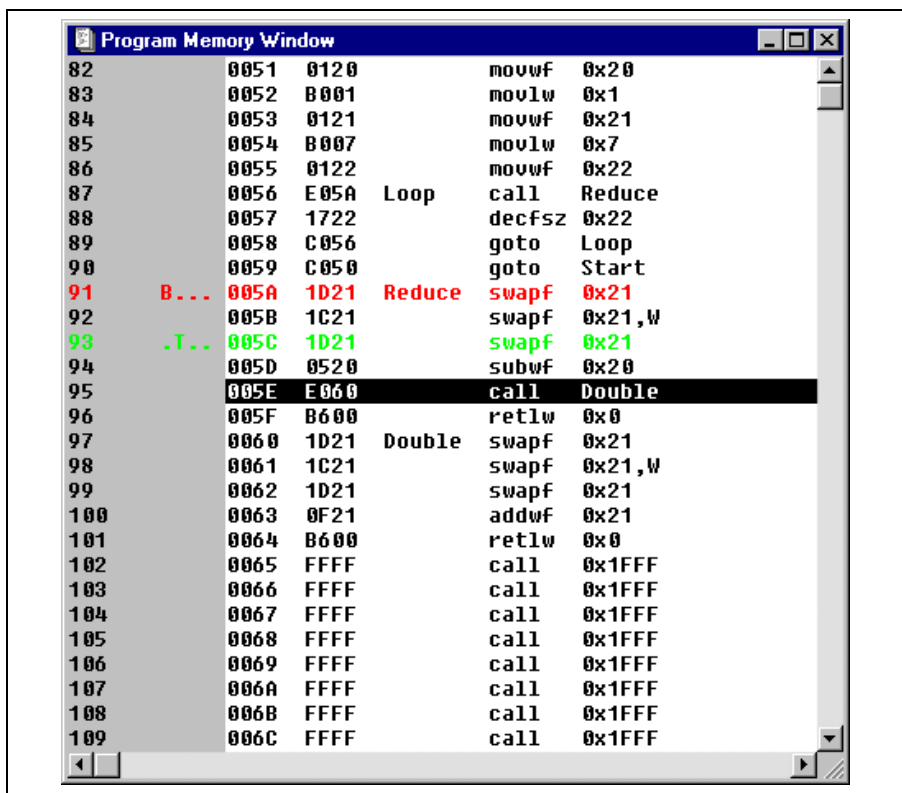

Figure 1.61: Program Memory Window – Machine Code Display
- **Machine Code Display** – This displays the disassembled HEX code with no symbolic information (Figure 1.61).